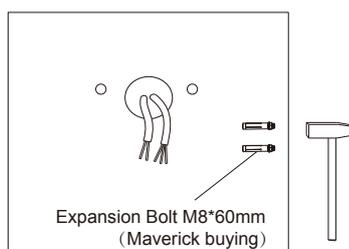

Figure 5
2. Knock the expansion bolts into the wall.(Figure 5)
3. Connect the fixture to the bracket and tighten the screws; connect the wires properly and put them into junction box.(Figure 5)